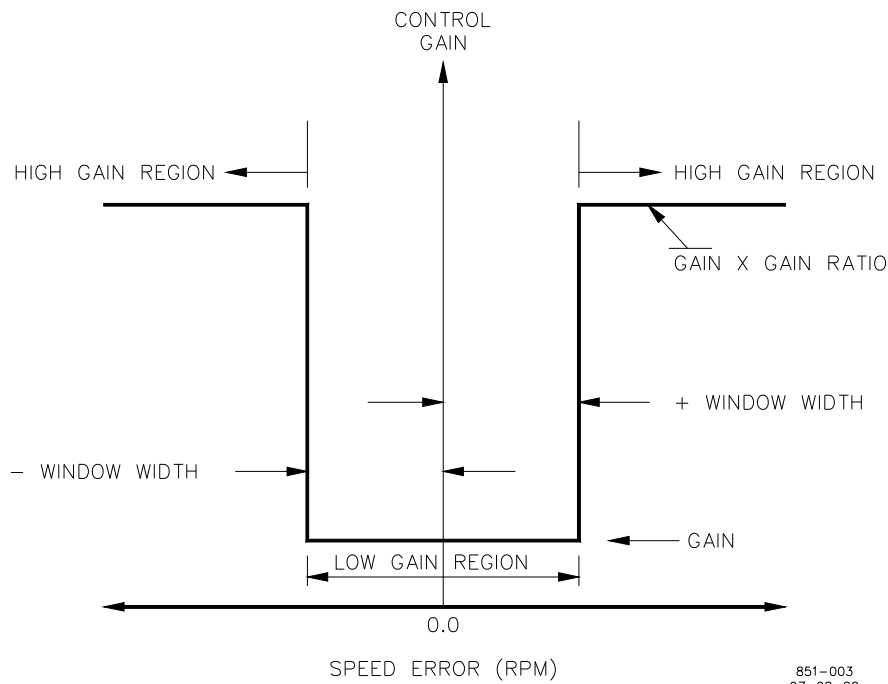

Figure 3-2. Control Gain as a Function of Speed Error
Dynamic adjustments are settings that affect the stability and transient performance of the engine. There is only one set of effective dynamics provided. The following descriptions of each menu item apply. Also see Figures 3-2, 3-3, and 3-4.
5. **GAIN RATIO** is the ratio of the Gain setting at steady state to the Gain setting during transient conditions. The Gain Ratio operates in conjunction with the Window Width and Gain adjustments by multiplying the Min and Rated Gain set points by the Gain Ratio when the speed error is greater than the Window Width. This makes the control dynamics fast enough to minimize engine speed overshoot on start-up and to reduce the magnitude of speed error when loads are changing. This allows a lower gain at steady state for better stability and reduced steady-state actuator linkage movement. (See Figure 3-2.)
6. **WINDOW WIDTH** is the magnitude (in rpm) of a Compensated speed error ( $E_c$ ) at which the control automatically switches to fast response. The control uses the absolute value of Compensated speed error ( $E_c$ ) to make this switch. The absolute value is the difference between the speed reference ( $N_r$ ) and the Compensated speed ( $N_c$ ). A Window Width too narrow will result in cycling that always turns on the Gain Ratio. (See Figure 3-2.)